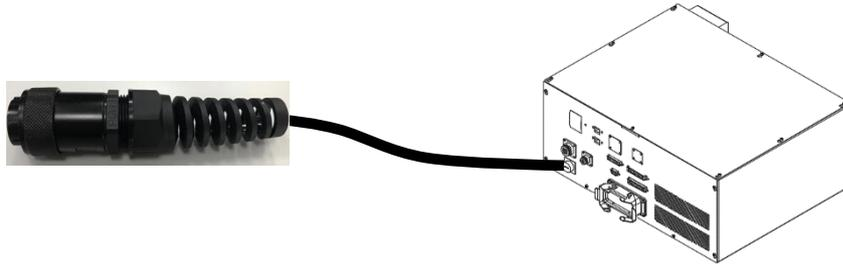

Figure 8.34 TP short-circuit connector figure
9. When TP is no longer used, please install the TP short-circuiting connector included in the accessory pack onto the controller, as shown in Figure 8.34.